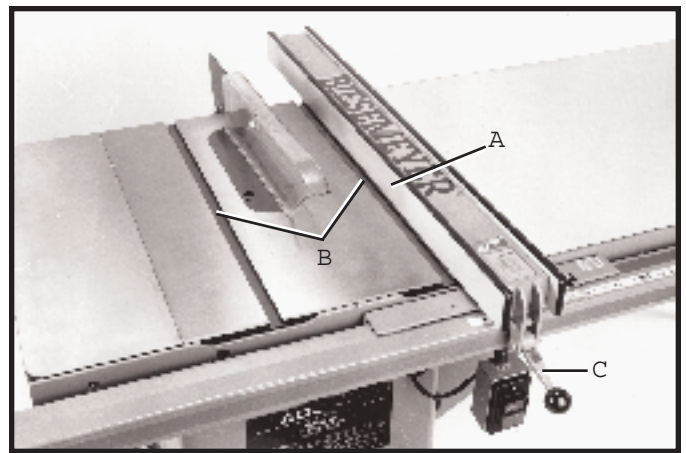
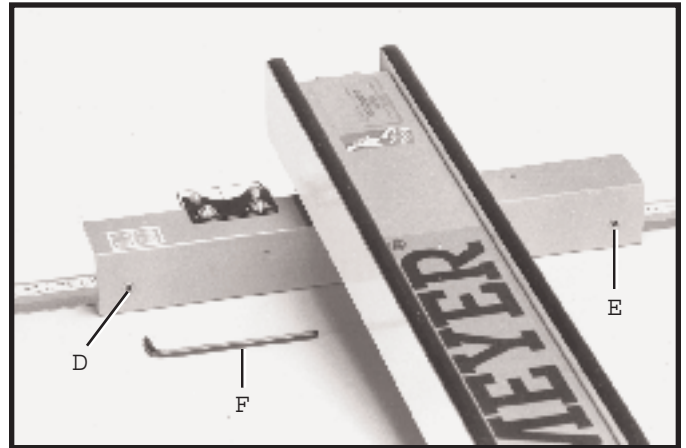

Fig. 27
Fig. 28
The fence (A) Fig. 27, must be adjusted so it is parallel to the miter gage slots (B). To check and adjust, move fence (A) until the bottom edge of the fence is in line with the edge of one of the miter gage slots as shown, and push down on the fence clamping lever (C). Check to see if the fence (A) is parallel to the miter gage slot the entire length of the table. If an adjustment must be made, lift up fence locking lever (C) and raise fence up off the guide tube, as shown in Fig. 28. Slightly tighten or loosen one of the two adjusting screws (D) or (E) Fig. 28, using a 3/16 allen wrench (F), not supplied. Replace the fence on the guide tube and check again to see if the edge of the fence is parallel with the miter gage slot the entire length of the slot. Repeat this adjustment until you are sure the fence is parallel with the miter gage slot. **IMPORTANT: VERY LITTLE MOVEMENT OF SCREWS (D) AND (E) IS NECESSARY TO ADJUST THE FENCE PARALLEL WITH THE MITER GAGE SLOT.**